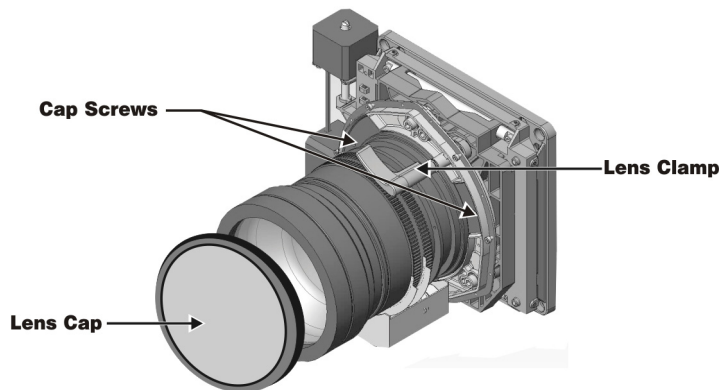

Figure 7-6 Release Lens Clamp
4. Install the lens cap and release the lens clamp by pushing it up (Figure 7-6).
5. If necessary, remove the 2 cap screws securing the lens to the lens mount using a 5mm hex key (Figure 7-6). The cap screws are only needed when the projector is ceiling mounted.